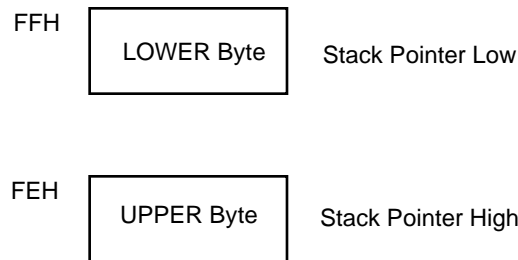

Figure 2-9. Stack Pointer
The register pair FEH and FFH form the 16-bit Stack Pointer (SP), that is used for all stack operations. The stack address is stored with the MSB in FEH and LSB in FFH (Figure 2-9).